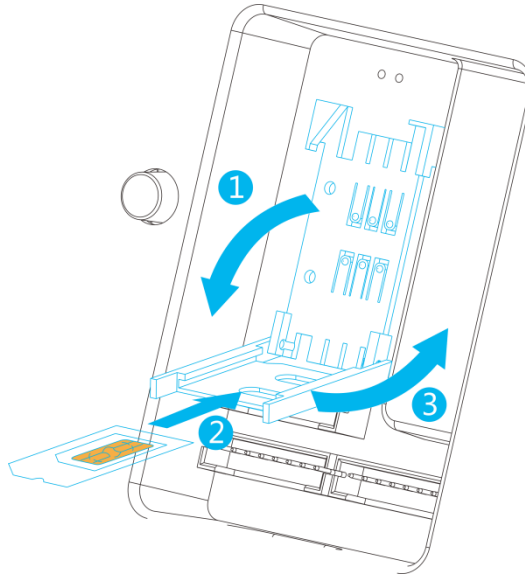

Figure 3-2
Step 2 Insert SIM card into the slot in accordance with arrow direction in Figure 3-2.